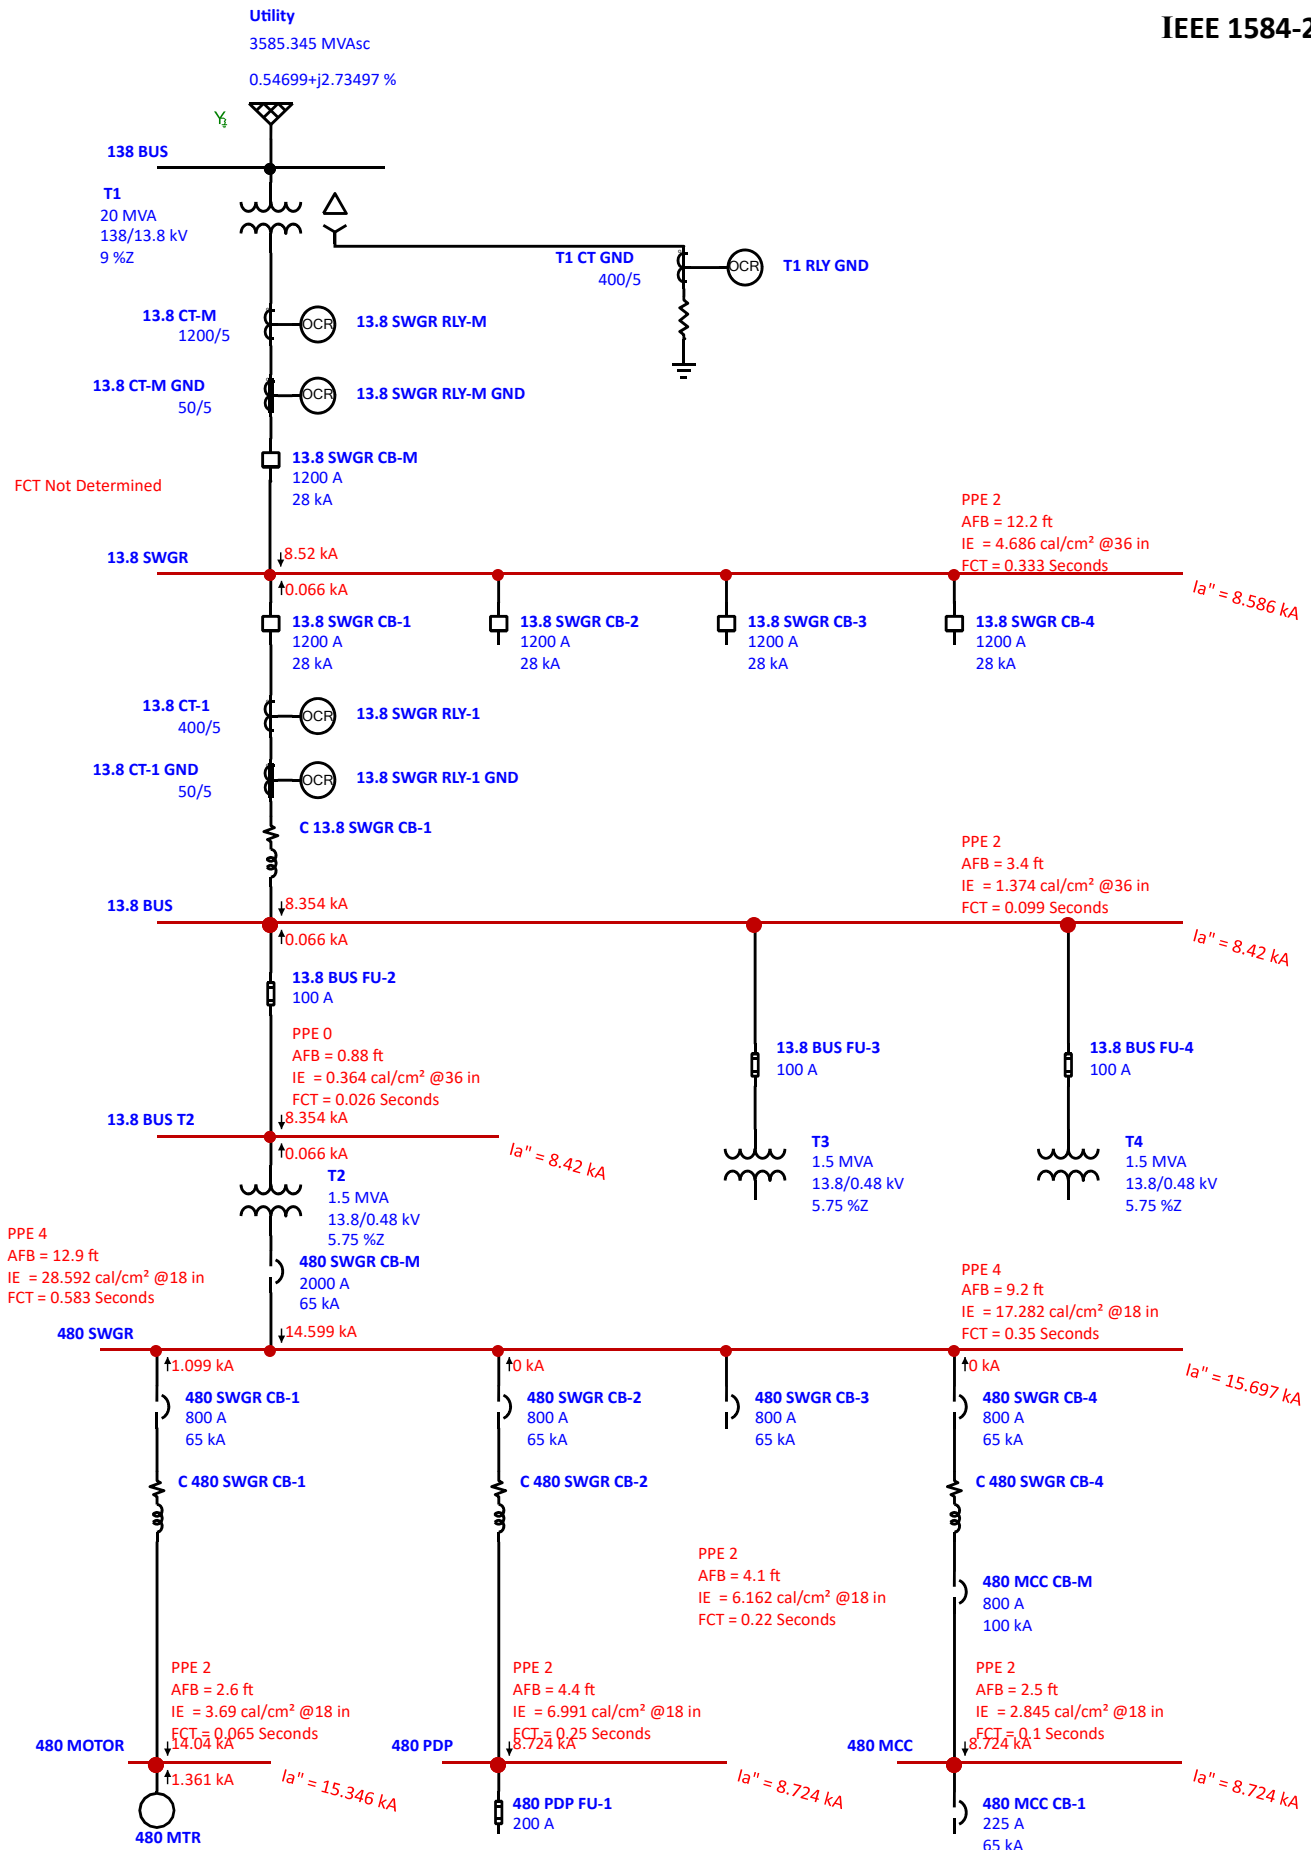

Figure 3
An example system is used to compare the equations in 1584-2002 with those in 1584-2018. It is setup with very specific parameters, but it does give a big-picture view of how the incident energy calculations can change. The calculations for the example system are given in Figures 3 thru 6 as follows:
- Figure 3 IEEE 1584-2002